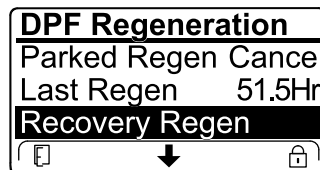

Figure 57
- If the engine computer has not requested a recovery regeneration and you scroll down to the RECOVERY REGEN option, the recovery regeneration locks and the lock icon (Figure 57) appears in the lower right corner of the InfoCenter.